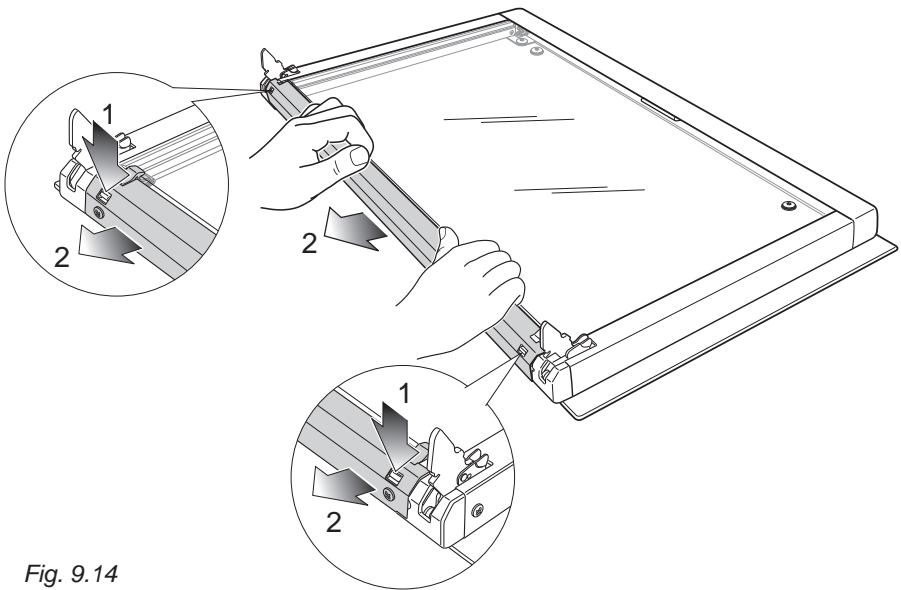

Fig. 9.14
**IMPORTANT:** The door shall be placed horizontally as per fig. 9.14.